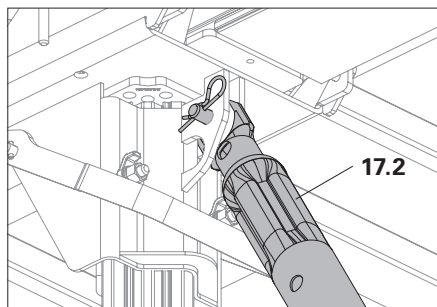
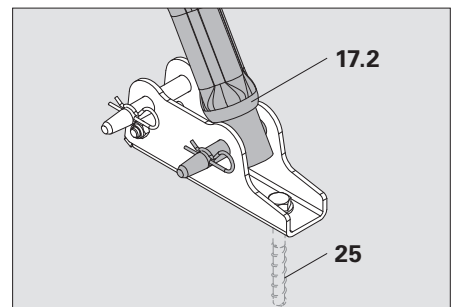

Fig. A4.04a
Fig. A4.04b
- Push-Pull Prop RS (17.2), tension- and compression-proof, with Bolt \varnothing 16 x 42, Bolt \varnothing 20 x 140, Cotter Pin 4/1 and Base Plate-2 for RS (18).
- (Fig. A4.04a + Fig. A4.04b)